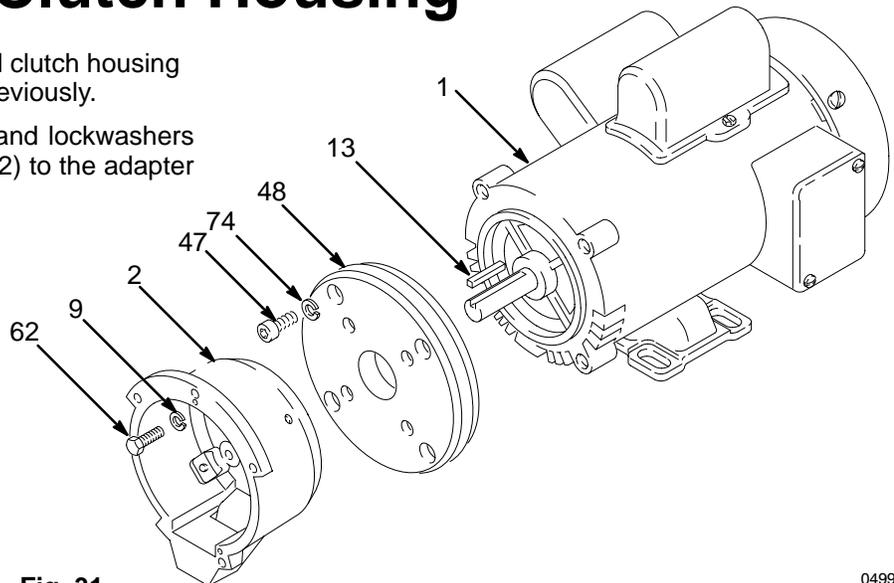

Fig. 31
**NOTE:** Refer to Fig. 31. The motor and clutch housing were removed from the cart previously.
1. Remove the four capscrews (62) and lockwashers (9) which hold the clutch housing (2) to the adapter plate (48).
2. Remove the key (13).
3. Pull off the clutch housing (2).